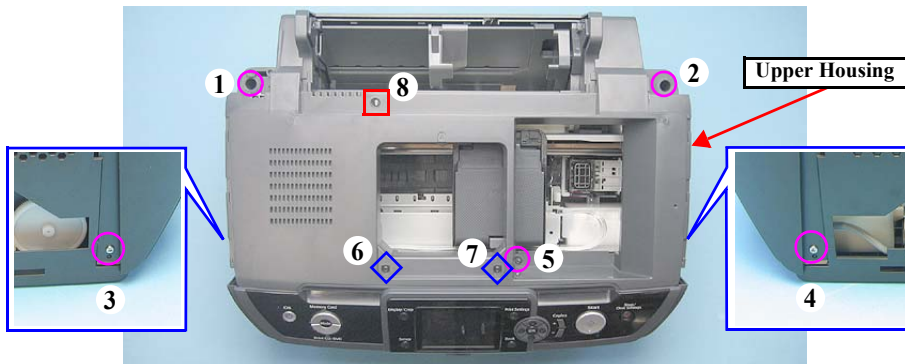

Figure 4-21. Removing the Upper Housing (1)
- Tighten the screws in the order given in Fig.4-21.
- (6), (7), (8) screws are black, and (6), (7) screws are mounted diagonally toward the rear side of the printer. Keep that in mind when removing/attaching the screws.